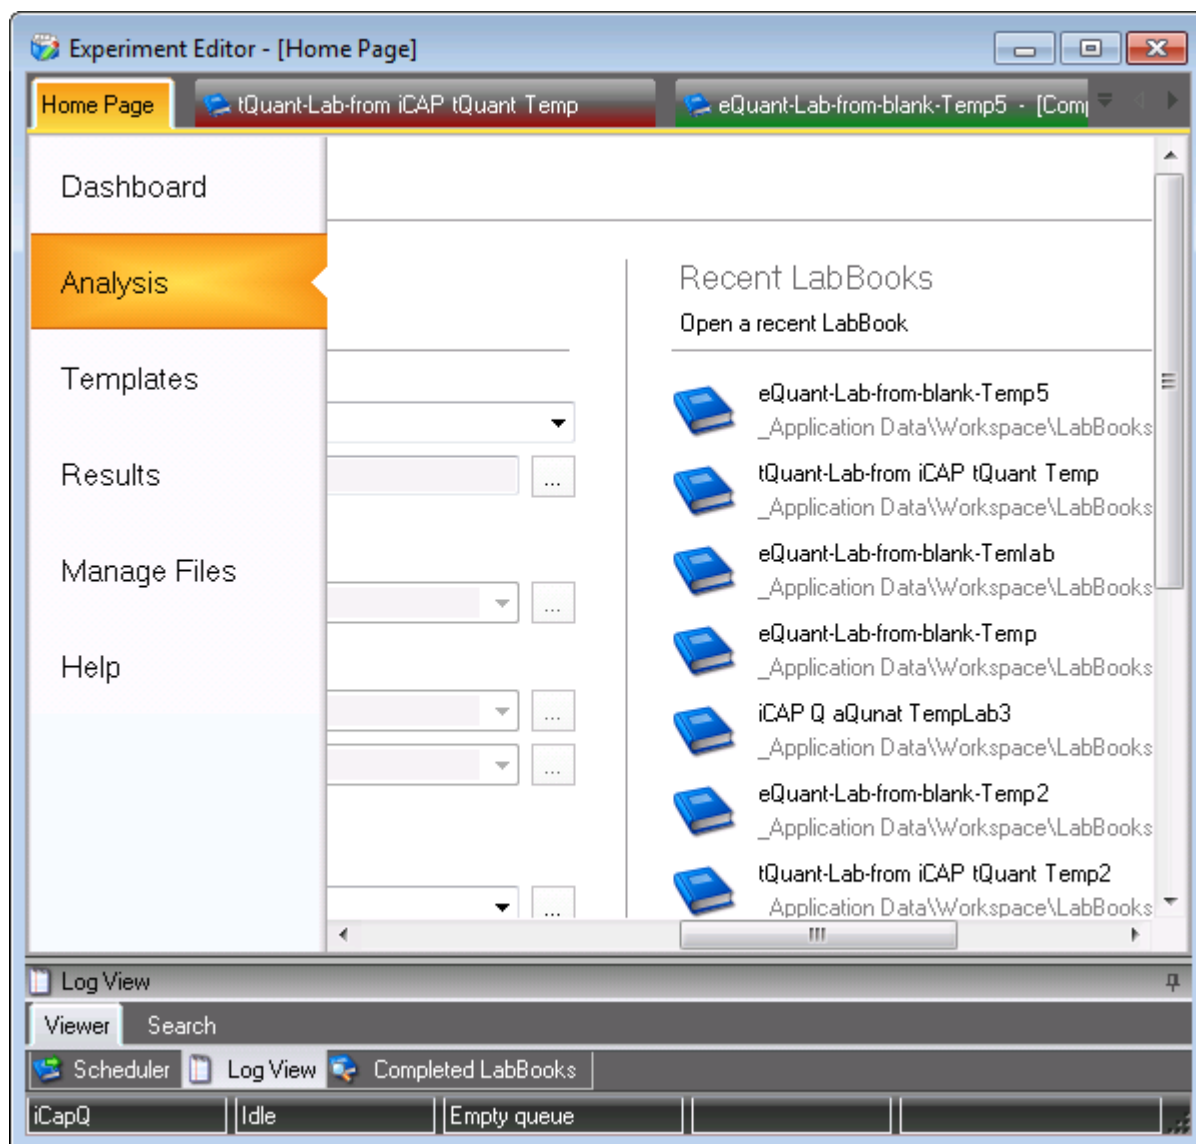

Figure 5-13. Recent LabBooks
- Click on a LabBook in the **Recent LabBooks** section, see Figure 5-13.